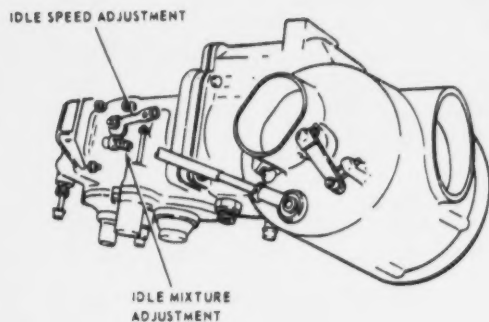

Figure 5-44. Idle speed and mixture adjustment
- (2) Run engine until oil and cylinder temperature indicators read normal.
- (3) Perform magneto drop check. If dropoff exceeds 125 rpm, check for fouled spark plugs. If dropoff is normal, proceed with adjustment.
- (4) Close throttle lever to idle engine at approximately 600 rpm. If rpm increases appreciably after a change in idle mixture during steps e through g below, readjust idle speed to 600 rpm. (See figure 5-44.)
- (5) When the idle speed has been stabilized, move mixture control lever with a smooth, steady pull into IDLE CUT-OFF position, and observe tachometer indicator for any changes during leaning process.
mixture adjustment (figure 5-44) one or two notches in direction required for corrections (counterclockwise for enriching; clockwise for leaning) and check this new position by repeating steps d and e above.